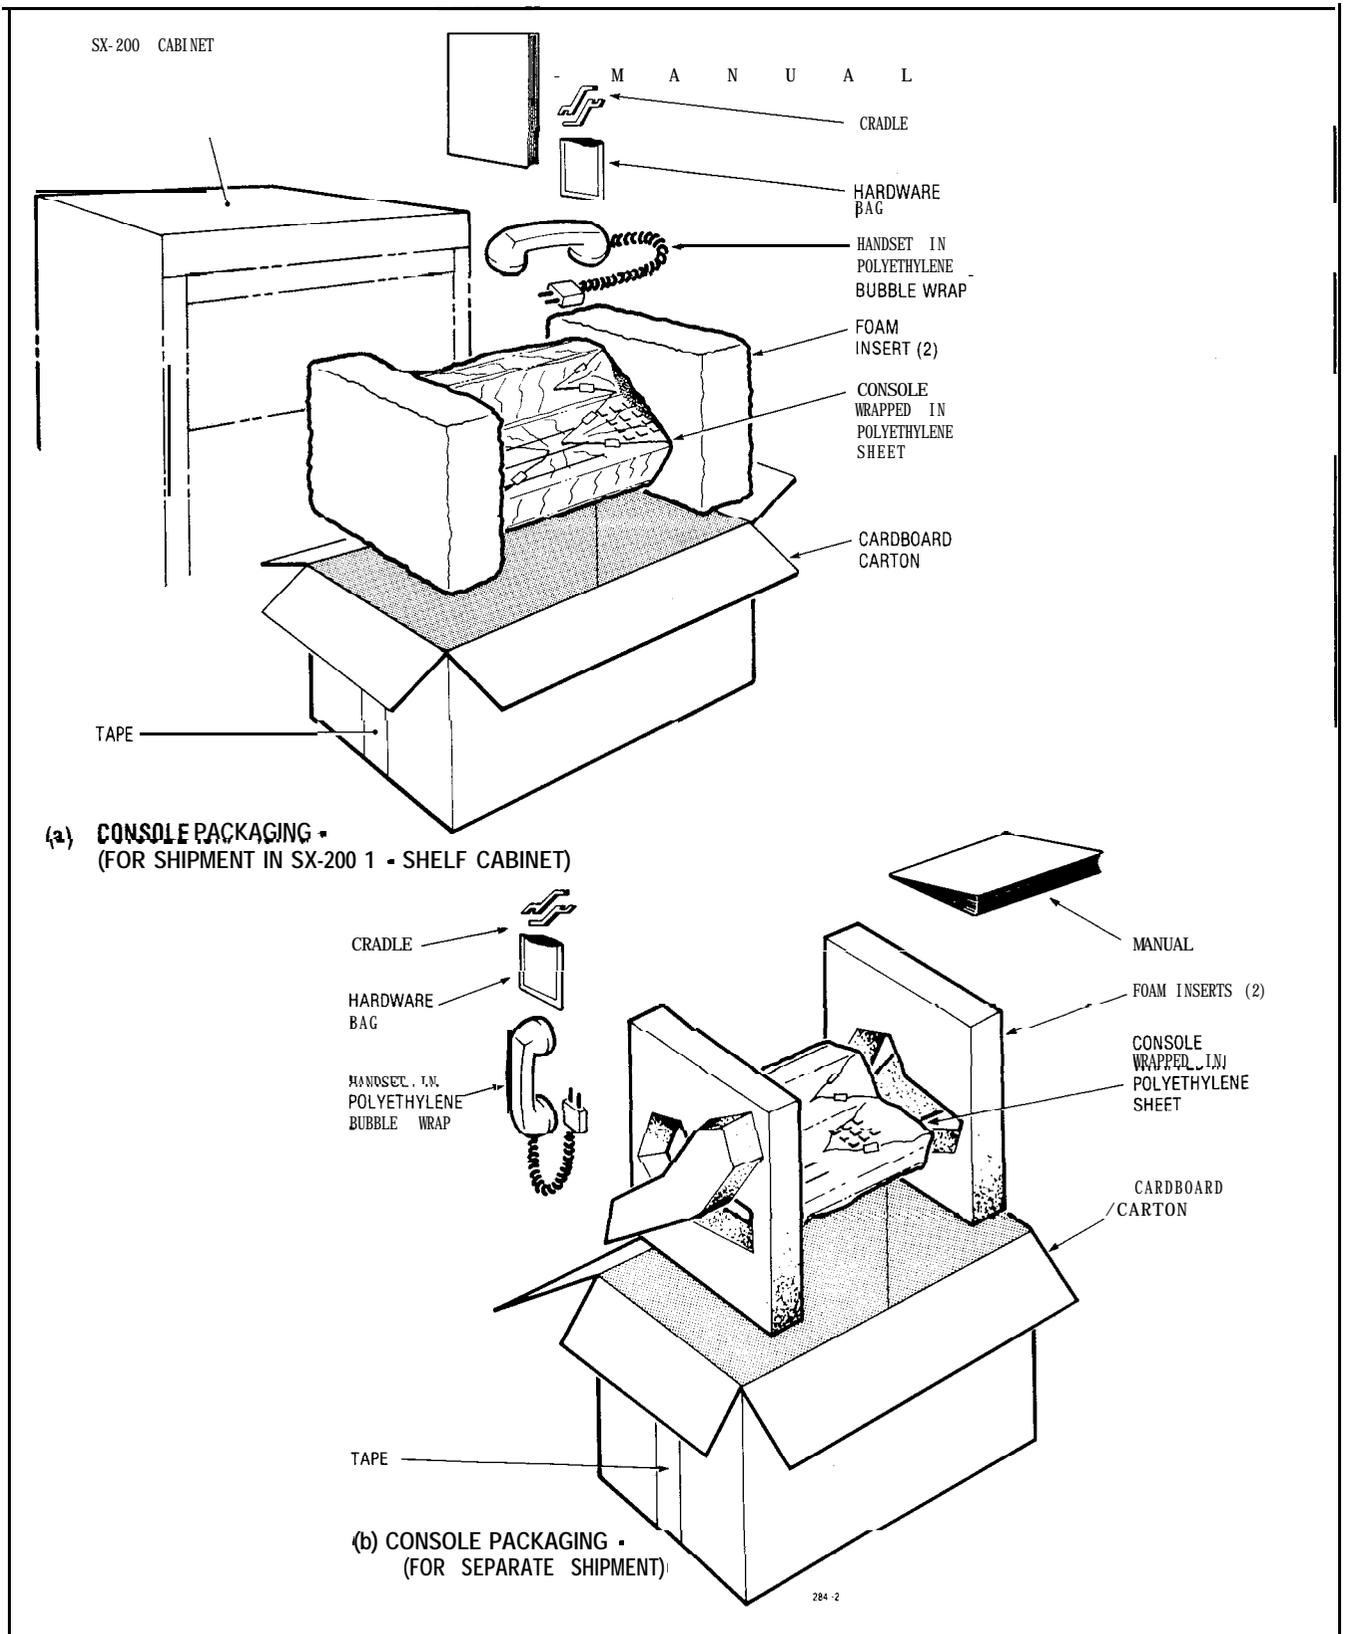

Fig. 4-3 Console Packaging
4.02 Each console is wrapped in a polyethylene sheet and placed in a cardboard packing carton and protected with shock absorbent foam inserts. The handset and cradle are placed in bags and inserted in the corners of the box at one end. The console manual is placed at the other end of the box, and the Extension Features Operation booklets are distributed in the box to fill the available space. The completed package is secured with fibreglass tape (See Fig. 4-3).